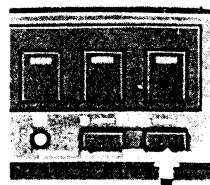

Fig. 5
If the right side "U" of the TUNE ⑩ is pushed, the radio frequency on the FREQUENCY/CLOCK DISPLAY ⑦ will count up (Fig. 5). If the left side "D" is pushed, the radio frequency will count down (Fig. 6). When pushed continuously (either "U" or "D"), the radio frequency will count up or down in rapid movement, accordingly. And if your fingers are released, the radio frequency will stop instantly at that position.